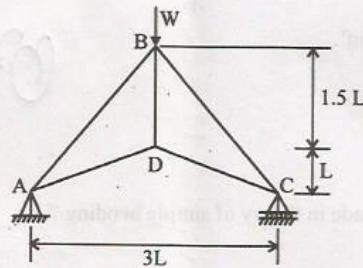

Fig. 12 (a)
- (b) A bar of 25 mm diameter is subjected to a pull of 40 kN . The measured extension on gauge length of 200 mm is 0.085 mm and the change in diameter is 0.003 mm . Calculate the Poisson's ratio and the values of the three moduli. (16)
12. (a) Determine the forces in the members of the frame shown in fig. 12 (a) by method of joints. (16)